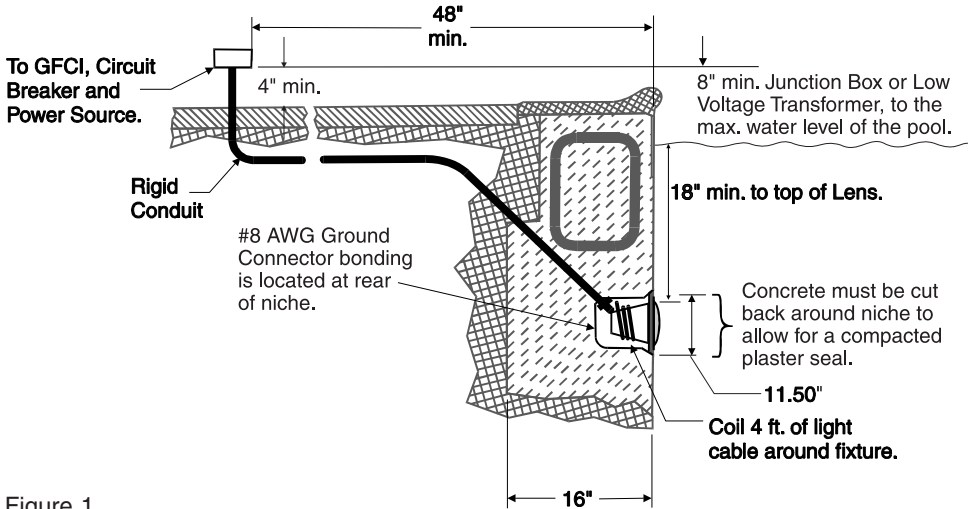

Figure 1.
- The Junction Box (or, for **12 volt models**, the low voltage transformer) is located at least eight (8) inches (20.3 cm) above ground level and at least 48 inches (1.219 m) from the edge of the pool; see Figure 1 on page 7.
- The light fixture and all metal items within five (5) feet (1.524 m) of the pool are properly electrically bonded.
- The wet niche is properly installed so that the top edge of the underwater light's lens is at least 18 inches below the surface of the water in the pool; see Figure 1 on page 7.
- The wet niche is properly electrically bonded and grounded via the No. 8 AWG ground connector located at the rear of the niche; see Figure 1 on page 7.
6. Leave at least four (4) feet of cord to coil around the light fixture; see Figure 1 on page 7. This four (4) feet (1.2192 m) of cord coiled around the light allows the light to be serviced after the pool is filled with water.
7. Cut the cord at the Junction Box, leaving at least size (6) inches of cord to make connections.
8. Strip six (6) inches (15.2 cm) of the outer cord jacket from the cord to expose the three insulated conductors. Be careful not to damage the insulation on the three (3) inner conductors. Strip a 1/2" of insulation off the three conductors. Be careful not to damage the copper conductor.
BEFORE STARTING: The following steps 1-7 (page 7-8) describe the tasks that must be completed by the electrician before the IntelliBrite light fixture is installed. See Figure 1 diagram on page 7.
1. Route light cable through conduit to Junction Box, leaving at least four (4) feet of cable at the light fixture to coil around the light (this allows the light to be serviced after the pool is filled with water). See Figure 1 below.
21. Coil at least four (4) feet of cord around the light fixture (see Figure 1 on page 7). This allows the light to be serviced after the pool is filled with water.